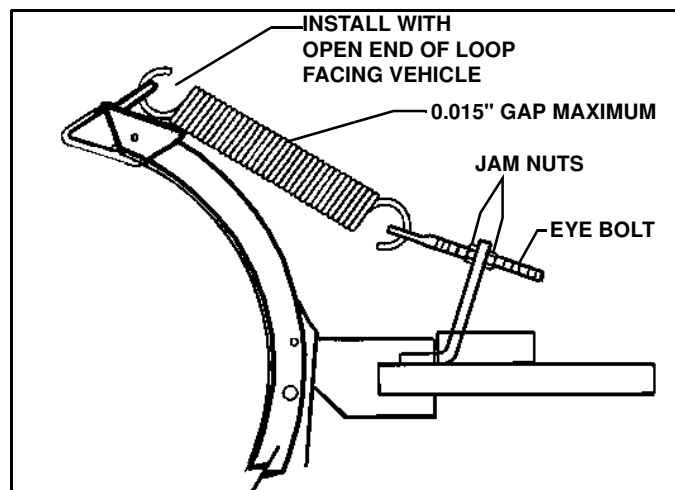

Figure 2-4
5. Remove the springs from the power pack carton. Hook springs onto blade with open end of loop facing up. (See Figure 2-4).
6. Install a jam nut on the eye bolt until fully seated and hook the bolt onto the free end of the spring. Insert the eyebolt on each side of the blade into the outside hole on the swing frame spring bracket. Loosely install a second jam nut on the eye bolt. (See Figure 2-4)